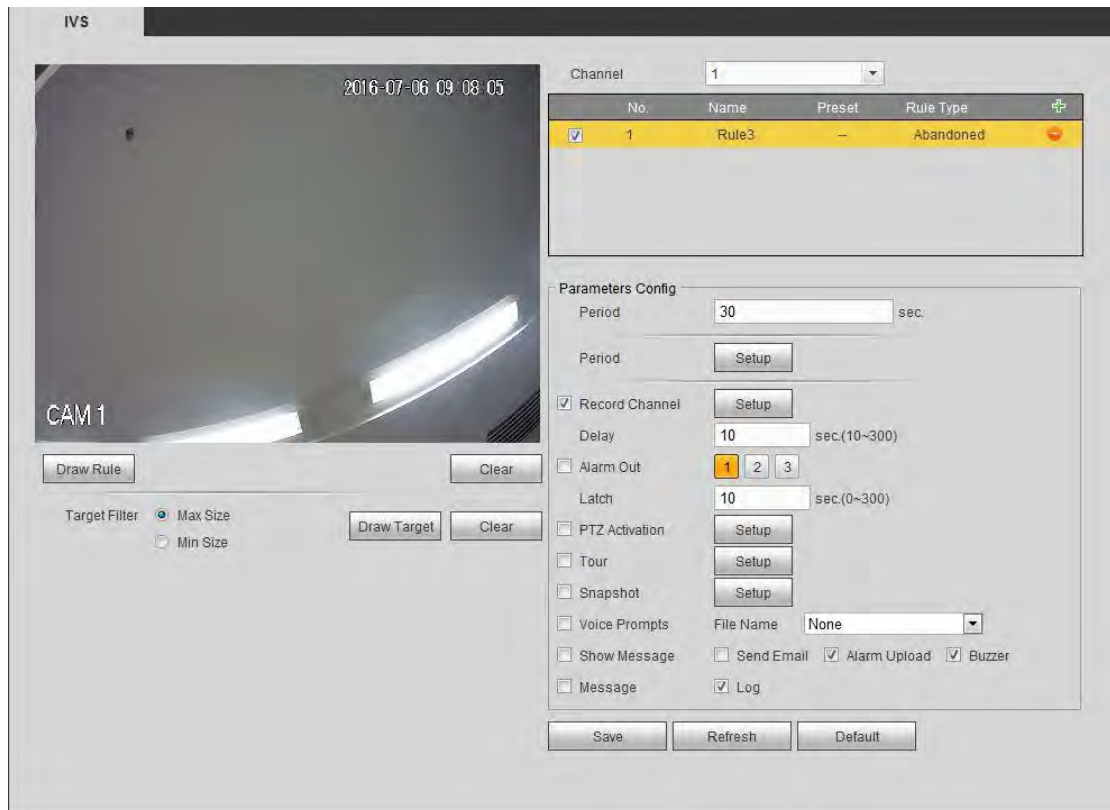

Figure 5-82
Step 2 Check the box to enable abandoned object detection function. See Figure 5-82.